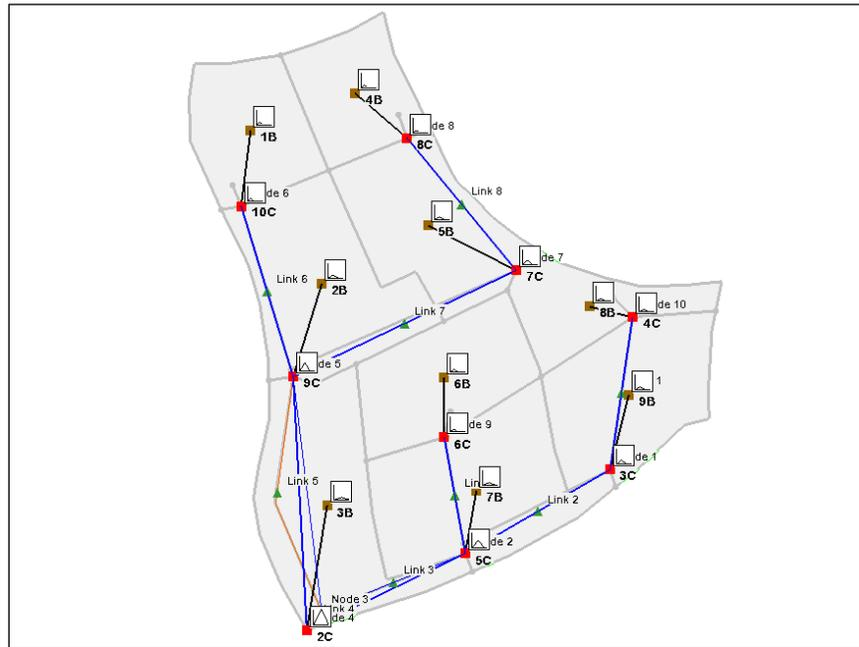

Figure 12 Rational Method hydrographs for SWMM
- Notice that each basin and outlet icon shows a hydrograph icon (Figure 12).